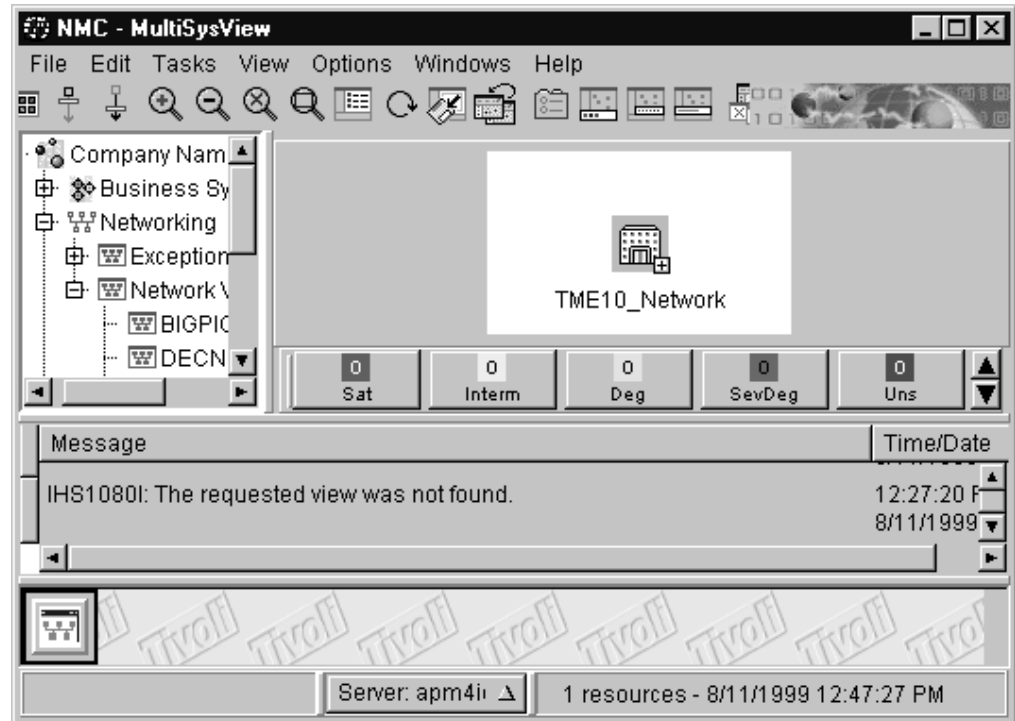

Figure 19. Topology Console Window
6. Select **OK** to sign on to NMC. The topology console window, as shown in Figure 19 on page 77 is displayed.
Figure 19 on page 77 shows the topology console window. The following describes the areas on the topology console window: